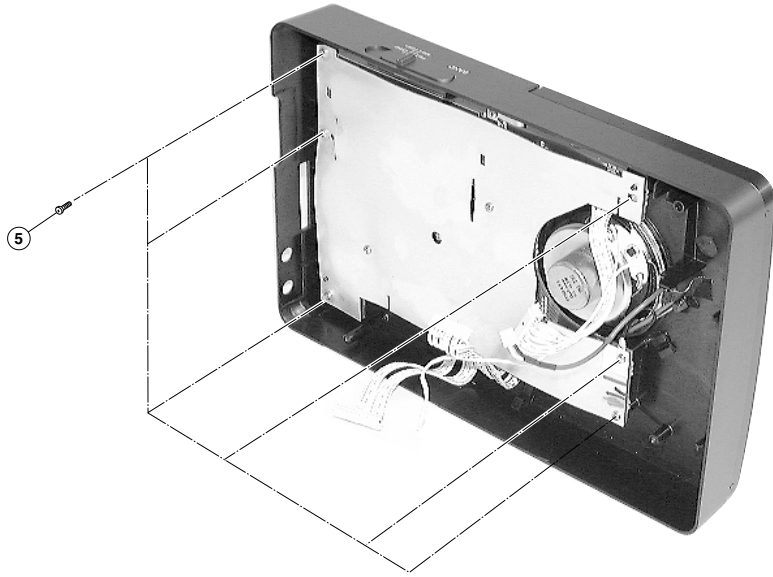

Fig. 4
### **3. Removal of Insulator Pad (Fig. 4)**
6. FM dummy antenna is shown in Fig. 4.